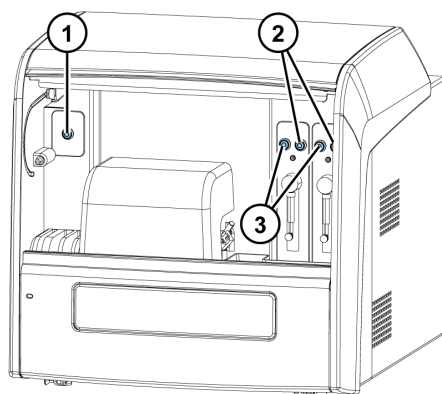

Figure 2–14 Control buttons
- Two **blue** Prime and Empty buttons for priming and emptying the dispenser tubing (Prime/Empty function) of each dispenser (Figure 2–14).